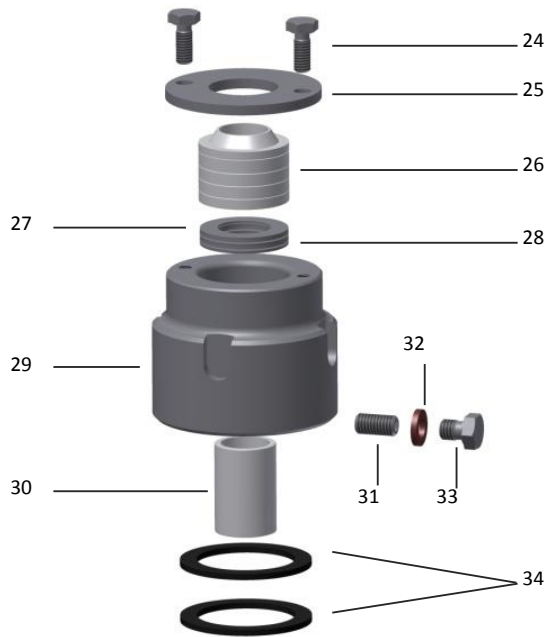

Figure 15: Bellows Seal NPS ½ - 6 CL 150 Stem ½" (Spare Part No. CVSHHLOI)
For NPS ½ to 6 (Figure 15) remove the safety stuffing box by loosening the screw (33), the set screw (31) and the clamp nut (29) in a whole. Then disassemble the valve as directed in section 7.2 carefully.